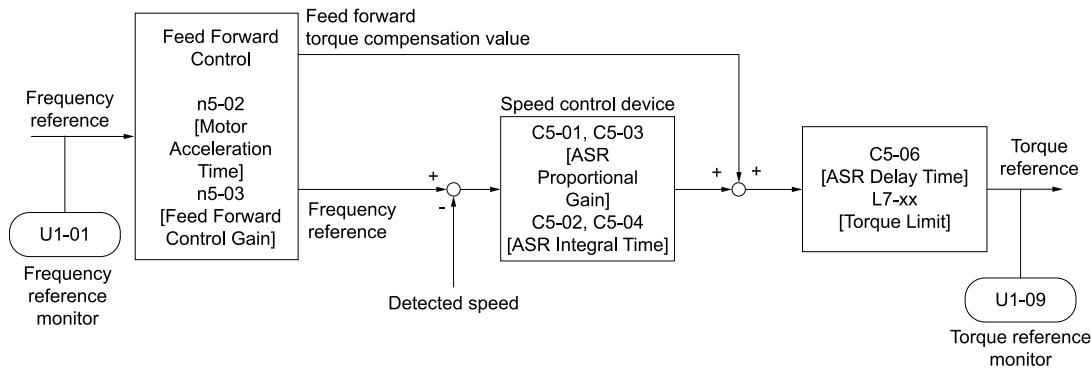

Figure 12.111 Configure Feed Forward Control
Increase the values set in *C5-01* and *C5-03* [ASR Proportional Gain] to apply feed forward control to machines that have low rigidity and are possible to have hunting and vibration or to machines that have a large quantity of inertia. Refer to Figure 12.111 for more information about parameters related to feed forward control.
- If you cannot do Inertia Tuning, refer to Figure 12.111 and set the parameters related to feed forward control individually.